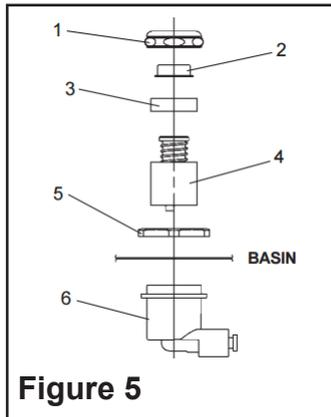

Figure 5
2. **Water Stream Height:** Stream height is factory set at 35 psig (0.24MPa). If supply varies greatly from this, remove items 1 and 2 and adjust screw on item 4. Clockwise adjustment will raise stream height and counter-clockwise adjustment will lower stream. For best adjustment, stream should hit basin approximately 6-1/2" (165mm) from bubbler. See Figure 5 and 10.